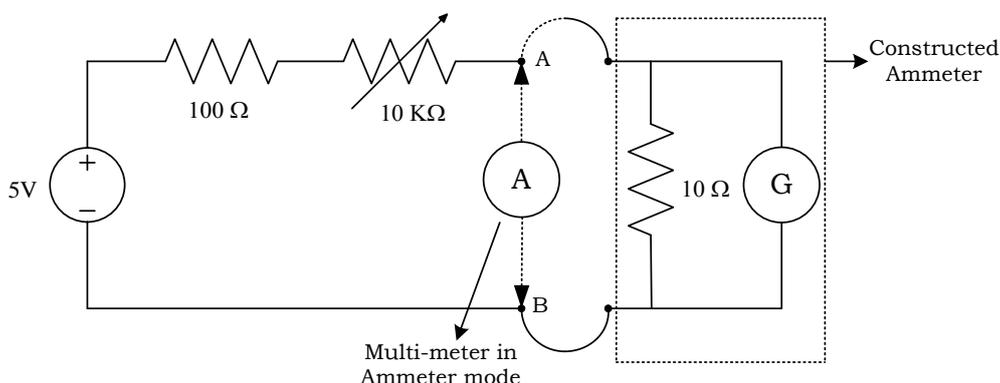

Figure 5.2: Use of galvanometer as an ammeter.
- Now place the constructed ammeter in the circuit shown below in Figure 5.2.